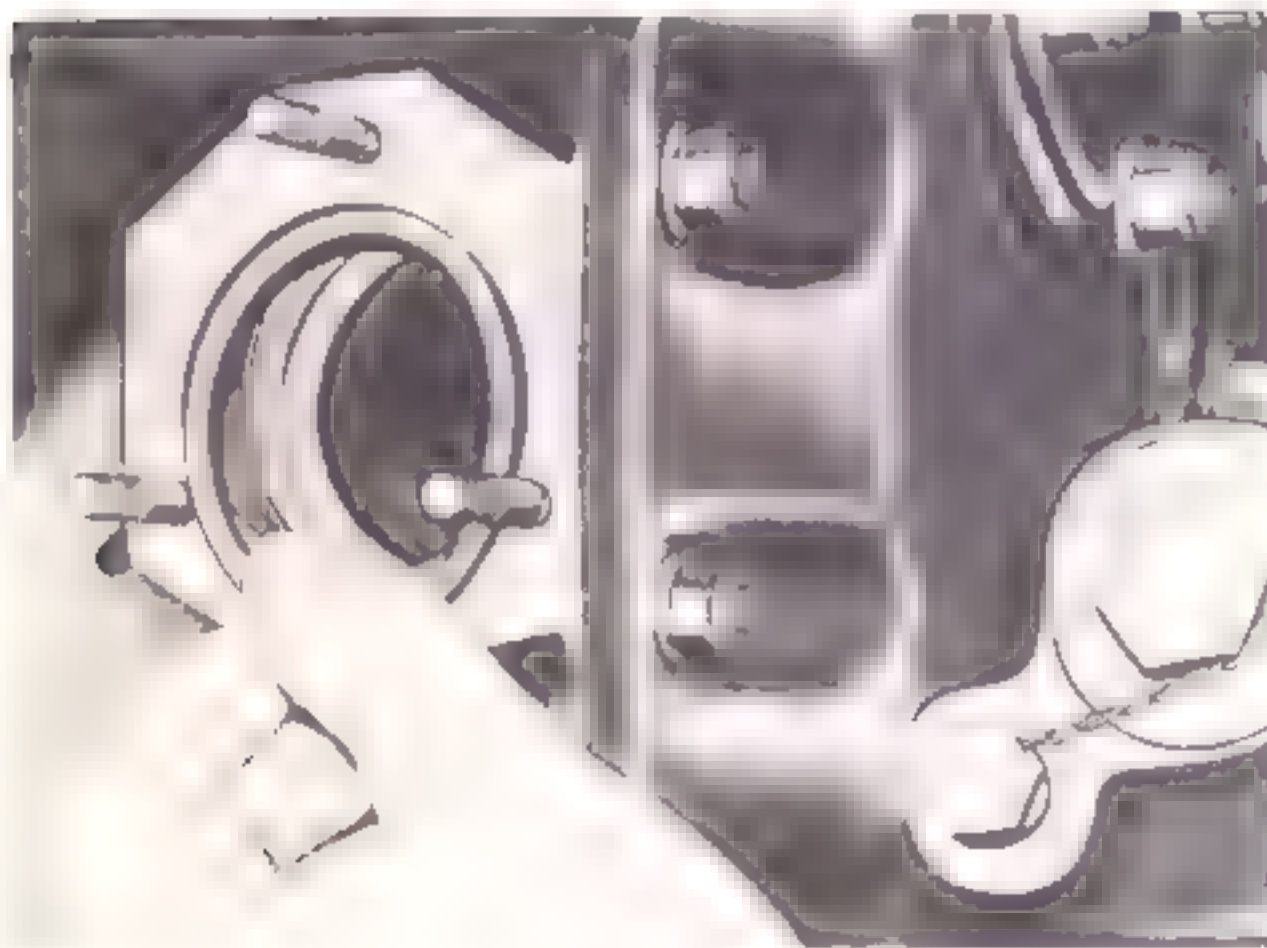

Figure 5-43. Removing packing from strainer cavity
e. Remove packing from groove on inside of strainer cavity and discard. (See figure 5-43.)